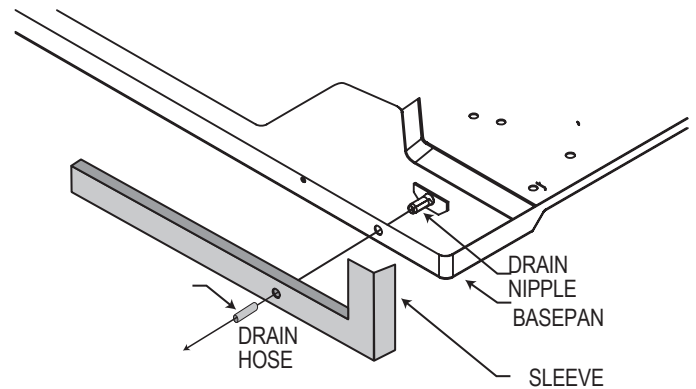

Figure C.7
- STEP 1.** Find the drain rubber plug on the rear of the basepan and remove it (see Figure C.7).